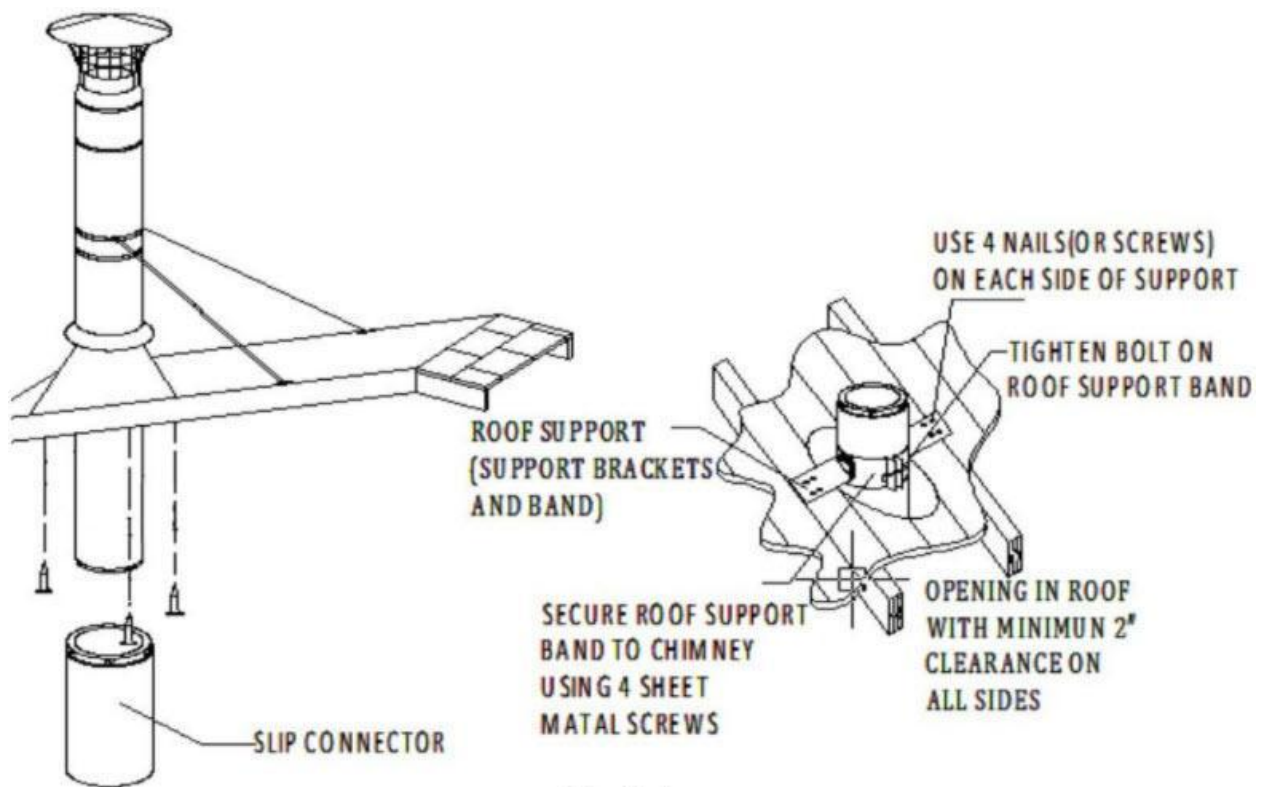

Fig 17
A Roof Support Bracket is used in installations where there is a cathedral ceiling and a Square Ceiling Support is not desired (often used in unfinished buildings, workshops, and garages). The Roof Support Bracket allows the Class A chimney to extend into the room below the ceiling level (Fig. 17). It can support a maximum of 45 feet of chimney in total, with no more than 20 feet below the support.
2. Bolt on the Roof Support Brackets to the Roof Support Band using the supplied hardware. Attach the Roof Support Brackets to the roof using (4) 8-penny nails or (4) #8, 1-½" screws per side (Fig 17).
4. Attach desired length of Chimney Sections above and below the roof level (max. Of 45' total, 20' max below the support) (Fig 17).